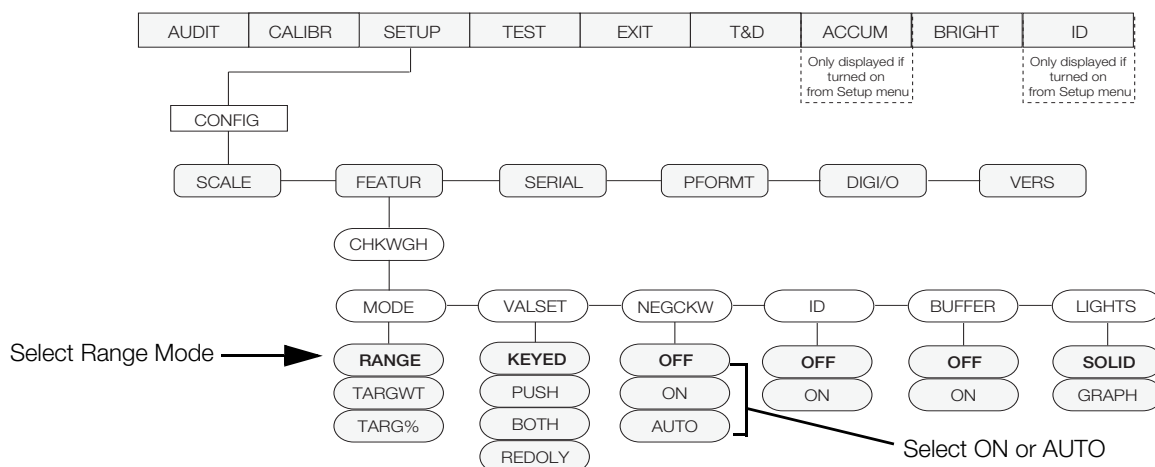

Figure 5-6. CHKWGH menu
1. Ensure Range is selected under *Mode* (See Figure 5-6).